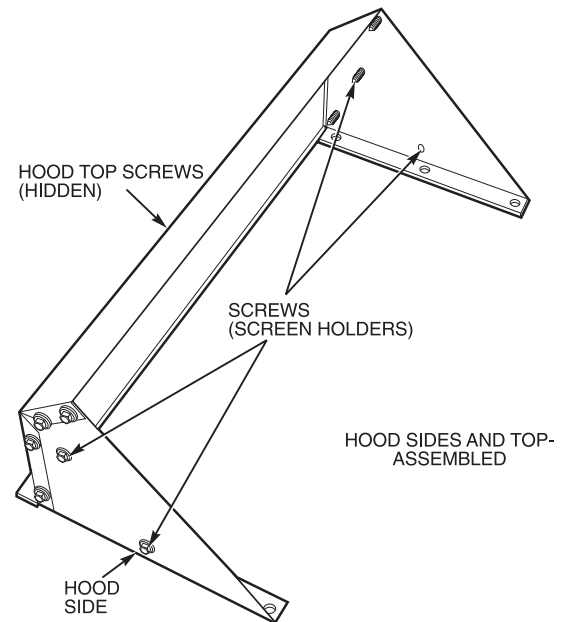
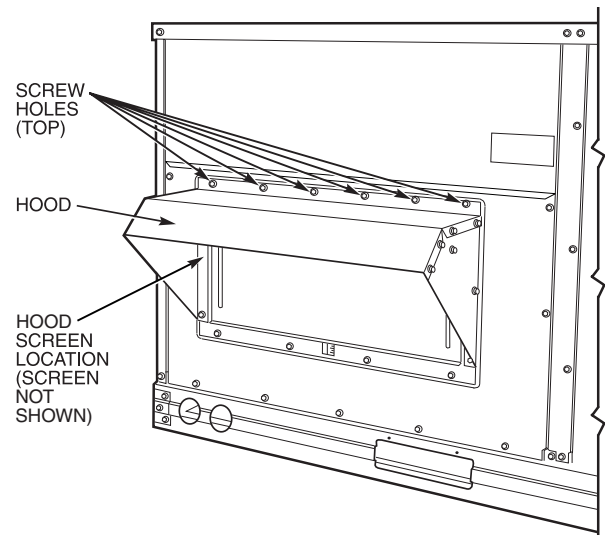

Fig. 15 — Outdoor-Air Hood Details
Fig. 16 — Damper with Hood Attached
5. Place hood on front of outdoor-air opening panel. See Fig. 15 for hood details. Secure top of hood with the 6 screws removed in Step 3. See Fig. 16.
7. Align screw holes on hood with screw holes on side of manual outdoor-air damper. See Fig. 15 and 16. Secure hood with 6 screws from Step 6.
9. Remove and save screws currently on sides of hood. Insert screens. Secure screens to hood using the screws. See Fig. 16.